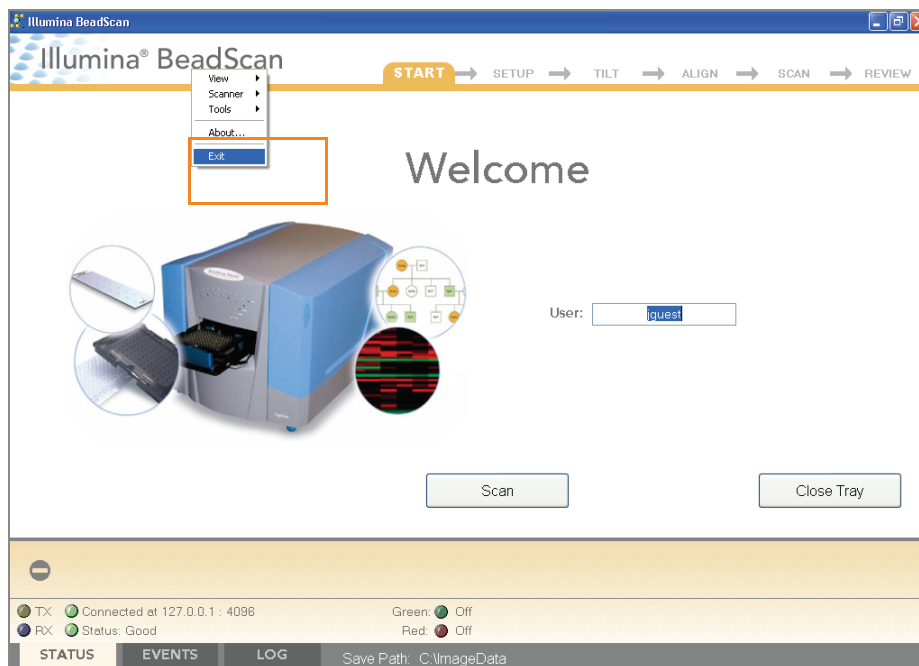

Figure 221 Exit the BeadArray Reader Software
- d. Shut down the BeadArray Reader BeadScan software. To exit, right-click near the Illumina logo and click **Exit** (Figure 221).